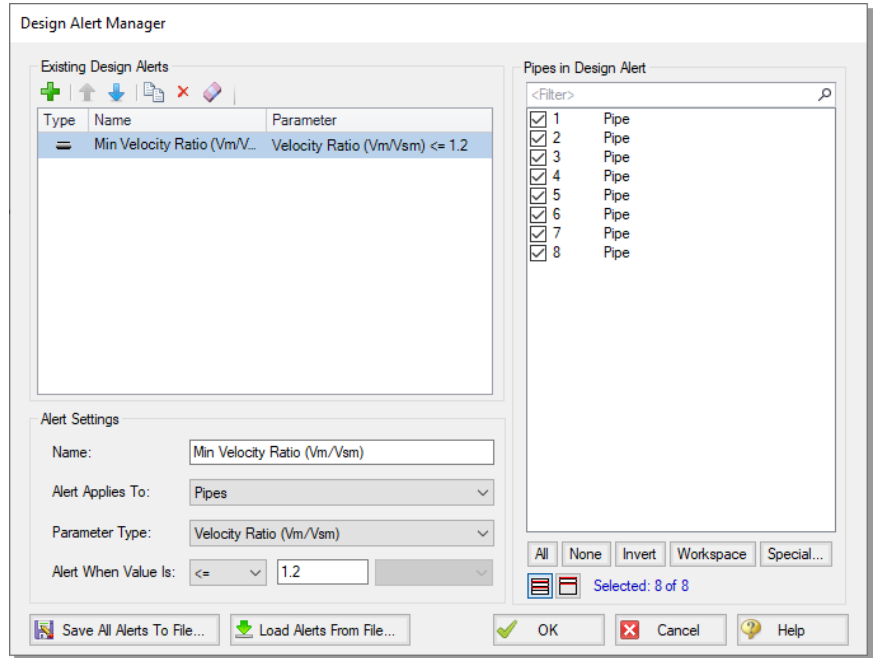

Figure 6.5 Creating a minimum velocity ratio Design Alert
7. The Design Alert Manager window should now appear as shown in Figure 6.5